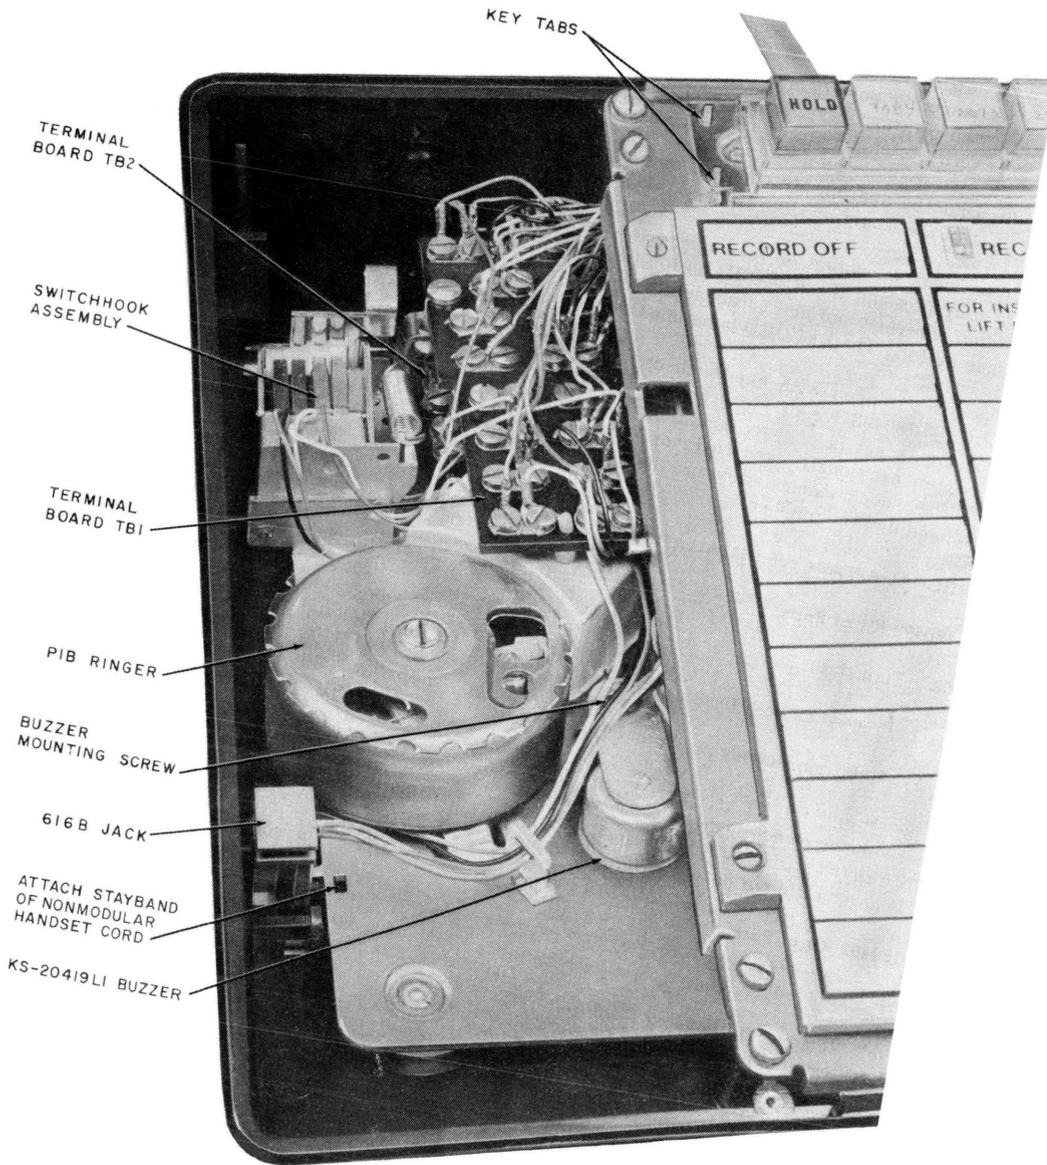

Fig. 3—2872A1M or 2872A2M Telephone Set With Faceplate, Handset, and Handset Cradle Removed
- (a) Under the handset cradle (Fig. 3):